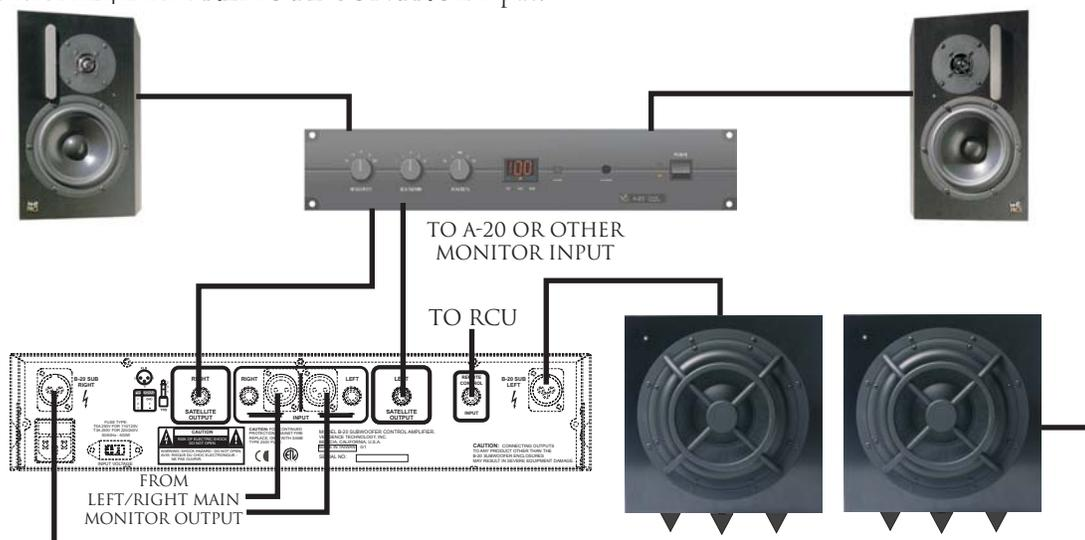

Fig. 7 Typical Hookup as Bass Augmentation for Monitors
- To augment the range of an active or amplified monitor system (FIG. 7).